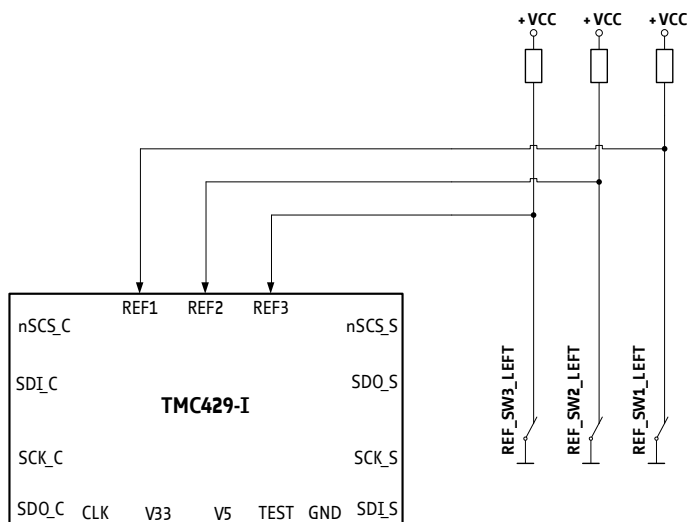
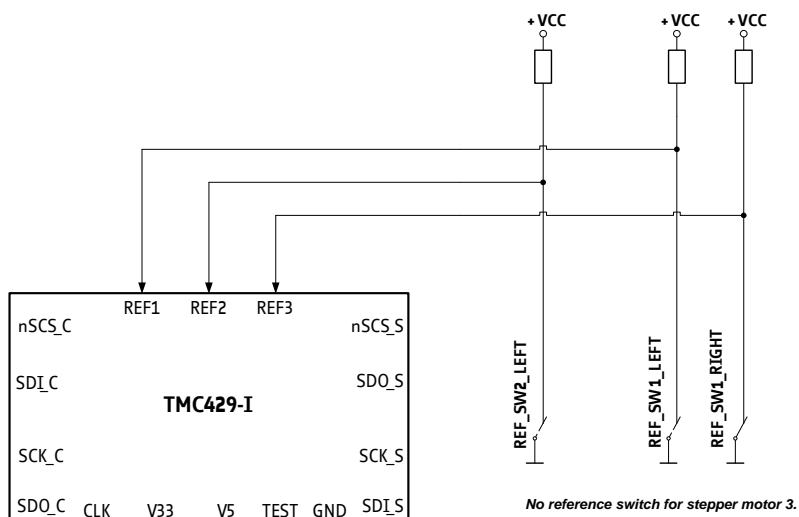

Figure 9.2 Reference switch configuration *left-side-only* for *mot1r*=0 (and *refmux*=0)
Figure 9.3 Reference switch configuration *two-one-zero* for *mot1r*=1 (and *refmux*=0)
- After power-on-reset, the default setting (*refmux*=0 and *mot1r*=0) selects the basic single reference switch configuration as outlined in Figure 9.2.
The TMC429-I offers three reference switch inputs, which can be used *left-side-only* or *two-one-zero* as shown in Figure 9.2 and in Figure 9.3.
If *mot1r* is set to 1 the input REF1 is also associated with the left reference switch of stepper motor #1. REF2 is also associated to the left reference switch of stepper motor #2. But, the input REF3 is associated to the *right reference switch* of stepper motor #1 and no reference switch input is associated to stepper motor number#3 (see Figure 9.3)